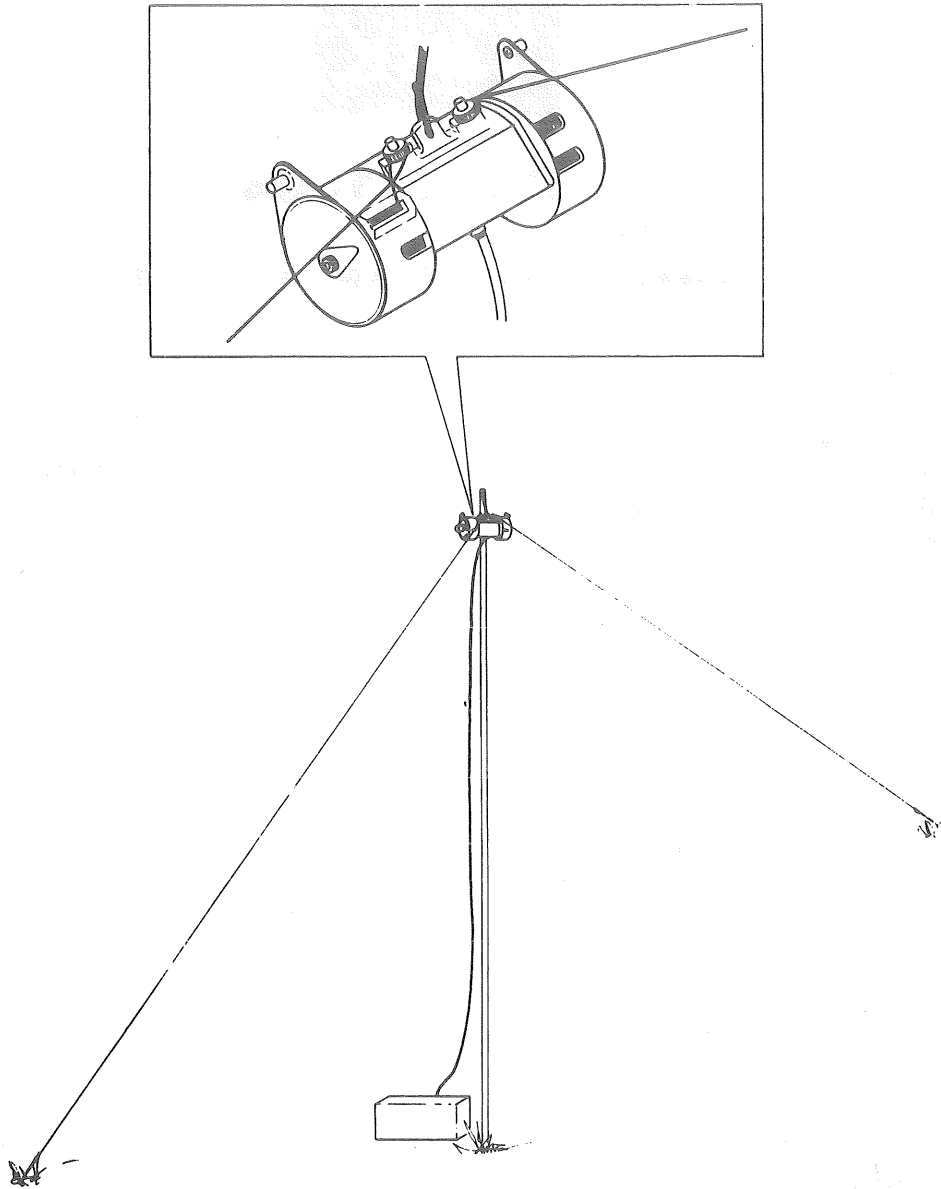

Figure 6. Collins Antenna 637T-2, supported at housing.
- (7) The antenna reel housing may also be secured to a single vertical support structure and the elements tied off at ground level with guy ropes as shown in figure 6. This type of installation is referred to as an inverted "V."